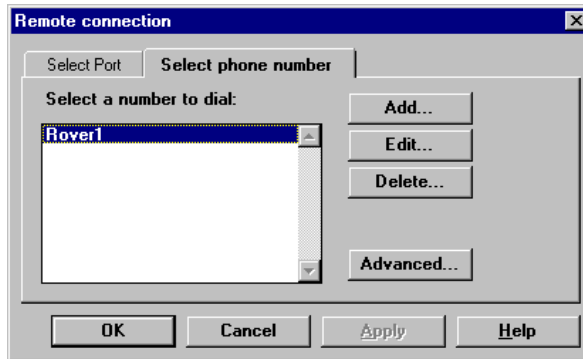

Figure 2.5: Remote Connection Dialog Box - Select Phone Number Tab
3. Switch to the **Select Phone Number** tab (Figure 2.5).